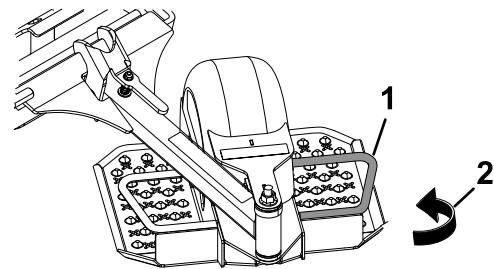

Figure 24
2. Slowly and carefully rotate the sulky until it contacts the drawbar (see Figure 24).